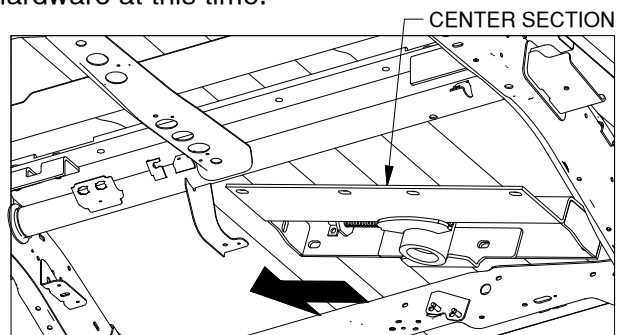
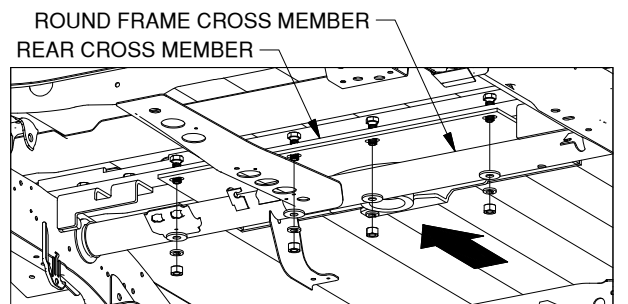

Figure B4: View looking up under truck bed. (Exhaust not shown)
Figure B5: View looking up under truck bed.
4. Install the center section. Raise the center section up between the frame on the passenger side of the truck and the exhaust pipe. At the same time turn it flat and slide it over the gas tank, making sure that the spring loaded latch pin assembly is toward the driver side of the truck, as shown in Figure B4. With the center section in the center of the truck slide it toward the rear placing the flat part of the center section that has 4 slotted holes in it between the bed cross member and the round frame cross member. Slide it back until the slotted holes align with the holes in the rear cross member. Install a 1/2" x 1-1/2" bolt through the rear cross member and the slotted holes in the center section and place a flat washer, lock washer and nut on the bolts, see Figure B5. Do not tighten hardware at this time.